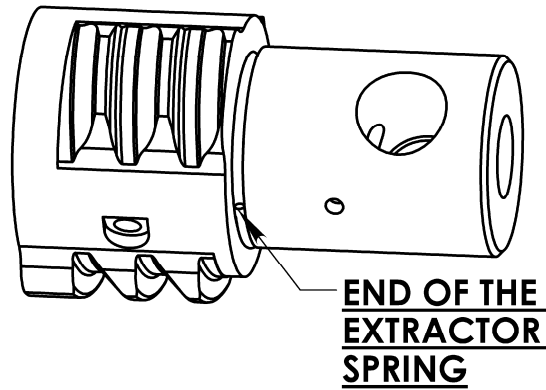
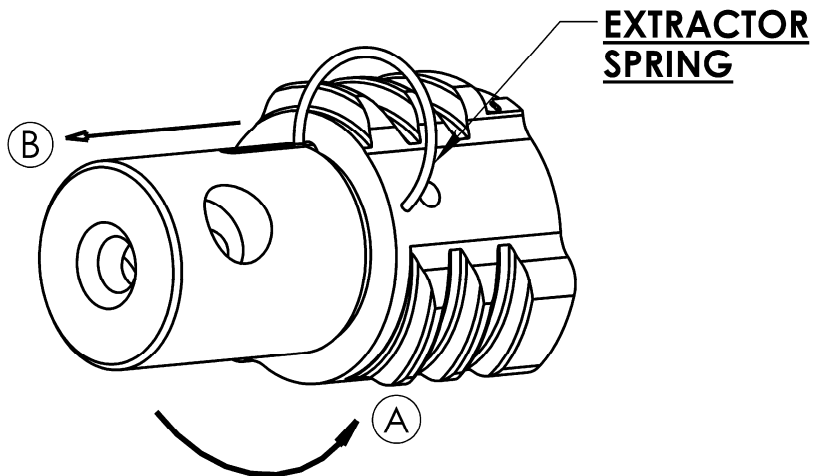
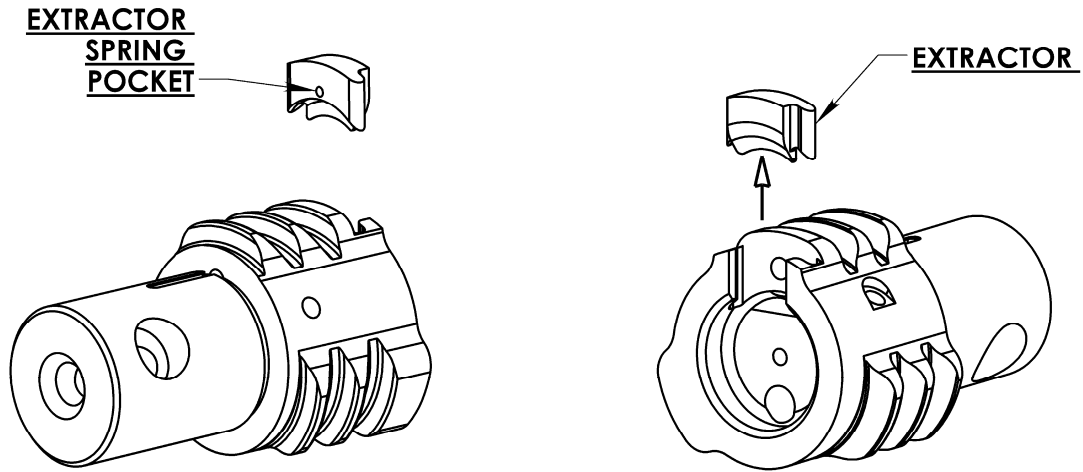

Figure 17.
Figure 18.
Figure 19.
1. Locate the end of the extractor spring. It is located just behind the bolt lugs. (Figure 17) It is a single bent wire. Using a 1/16" punch, gently lift the end of the extractor spring and unwrap it clockwise from the bolt. With the circular part of the spring up and fully out of the slot in the bolt withdraw the spring (Figure 18). Next slide the extractor out of the slot in the bolt. (Figure 19)